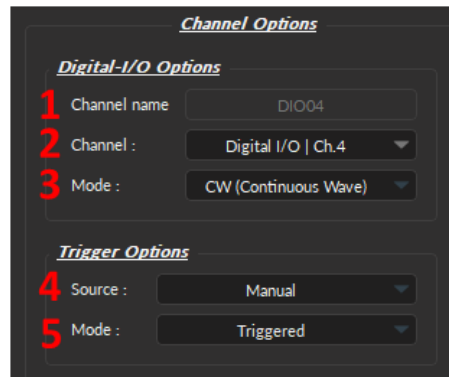

Figure 8.18: Channel(s) configuration window, Digital I/O Channel Options
1. The **Channel name** (Fig 8.18, 1) allows user to specify a label for each channel.
2. The **Channel** (Fig 8.18, 2) identifies the channels available to create a Digital I/O. The channel can be changed by selecting a new one from the drop-down list. Each numbered channel on the physical microscope corresponds to the same number of the digital channel within the software.
3. The **Mode** (Fig 8.18, 3) identifies the type of signal sent (for output channels) or the way the signal is measured (for input channels). Three modes are available:
1. The **Source** trigger option (Fig 8.18, 4) allows the choice of a **Manual Trigger** (activated by a user) or an **Input** trigger, coming from a **Digital I/O** channel set in input mode.
2. The **Mode** (Fig 8.18, 5) defines how the trigger activates a sequence. This includes input sequences, which can be triggered/gated by an outside source.
The parameters contained in the **Sequence Options** depend on the **Channel Mode** (selected in **Channel Options**, Fig. 8.18), as following: